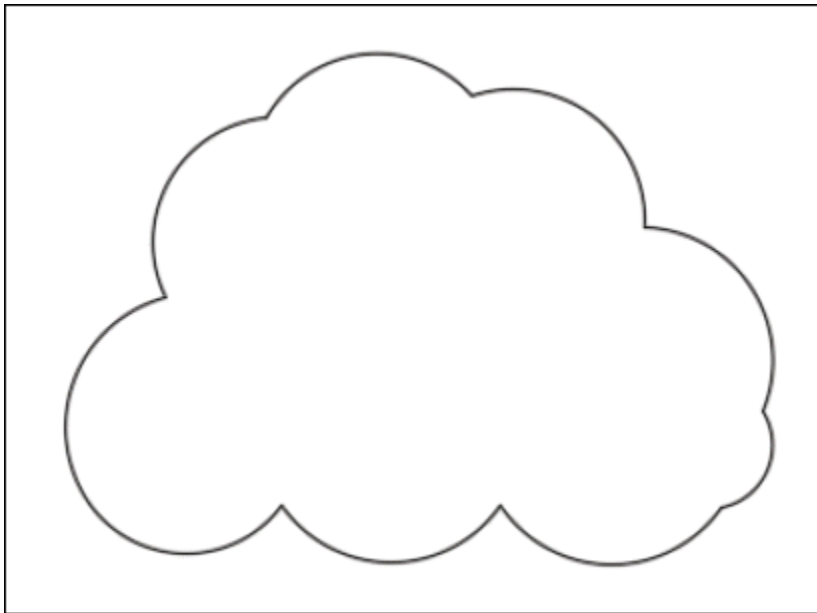

Figure-124. Revision cloud created
- After specifying desired points, press **Enter** from the keyboard. The revision cloud will be created; refer to Figure-124.